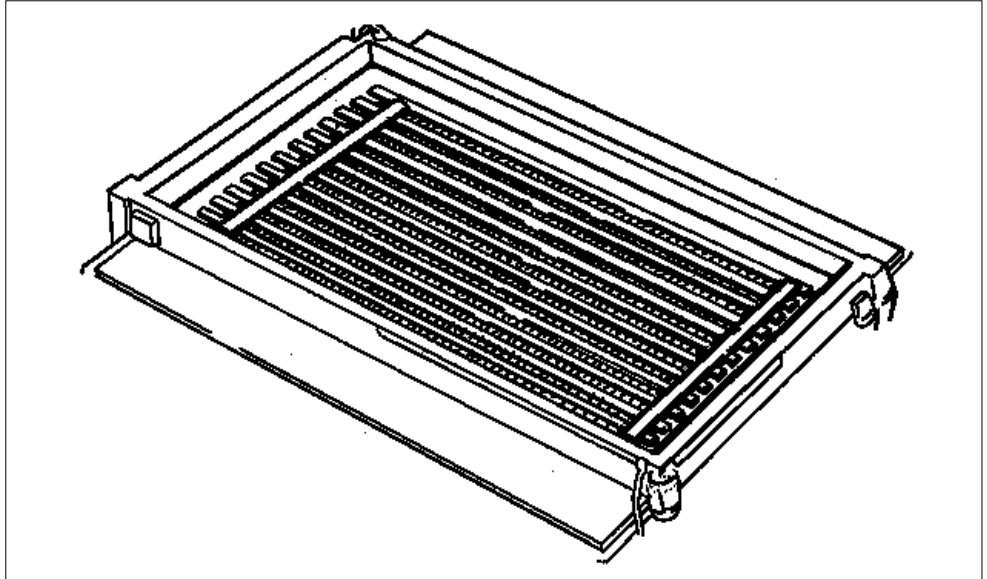

Fig. 14.
- Place the moistened IEF Electrode Strips on top of the aligned strips at the Cathode and Anode (Fig. 14).